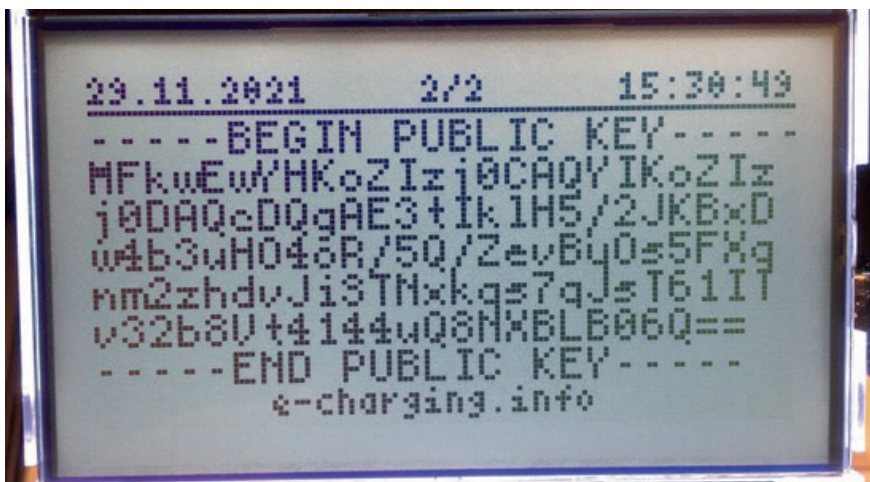

Fig. 42: Metering capsule display window 2
- > Locate the key opening of the lock (see Fig. 42).
- > To lock the service door, turn the key 180 degrees counterclockwise.